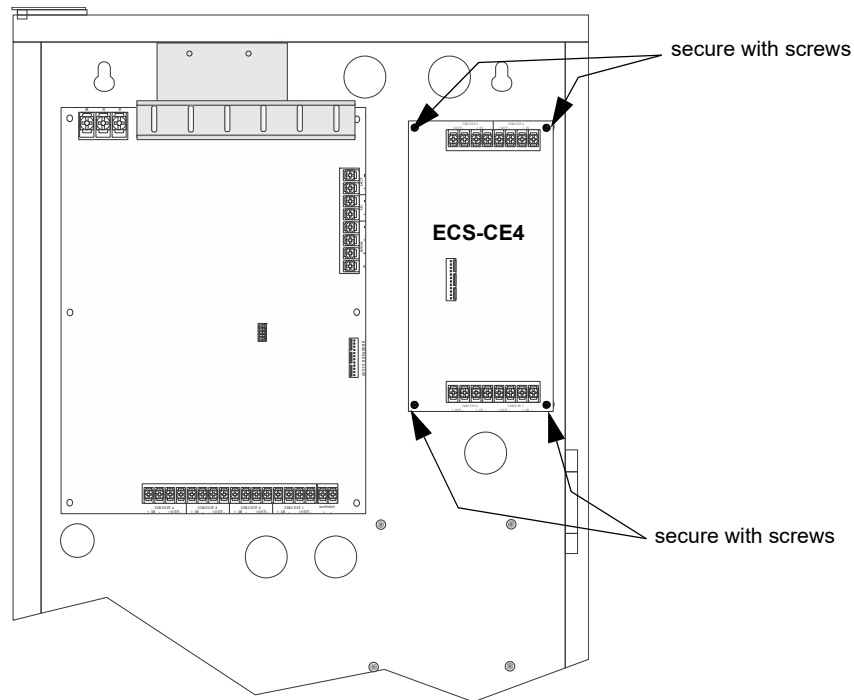

Figure 4.67 Mounting the ECS-CE4
- Secure the ECS-CE4 to the backbox using the four supplied screws as shown in Figure 4.67.